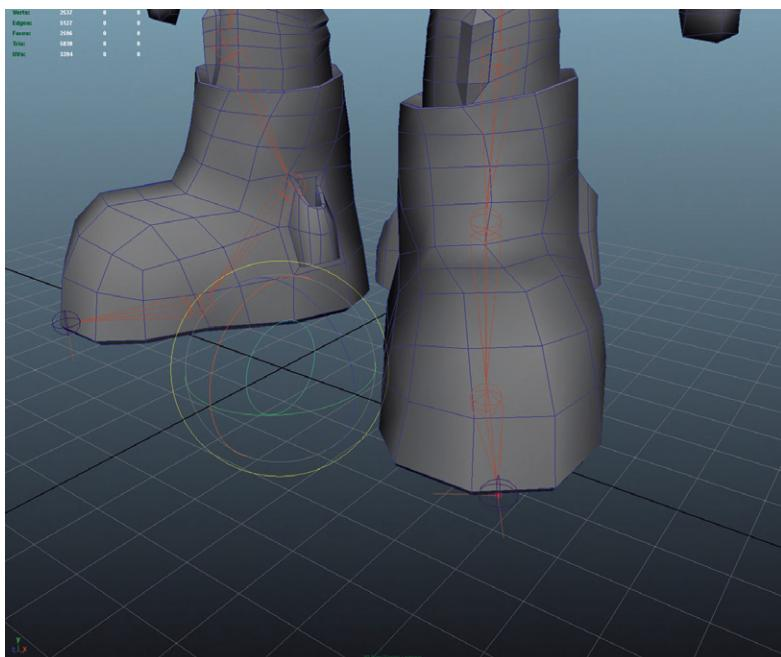

FIG 8.19 L_Toe_Cntrl on creation.
Step 31: Create a NURBS circle handle. Do this by first turning off Interactive Creation (Create > NURBS Primitives > Interactive Creation). Then, create a new NURBS Circle via Create > NURBS Primitives > Circle (Options). Here, change the Normal Axis to X and hit Create. Rename the new circle to L_Toe_Cntrl. The results will be a circle that's standing up at 0, 0, 0 in world space (Fig. 8.19).